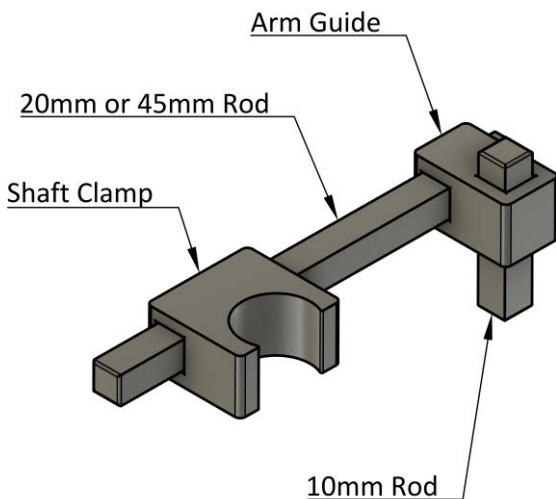

Figure 1
- Assemble *easySWASH* by sliding a *Shaft Clamp* onto either the 20mm or the 45mm *Rod* and an *Arm Guide* onto the other end. Next, slide one of the 10mm *Rods* vertically into the *Arm Guide* (see Figure 1 above).